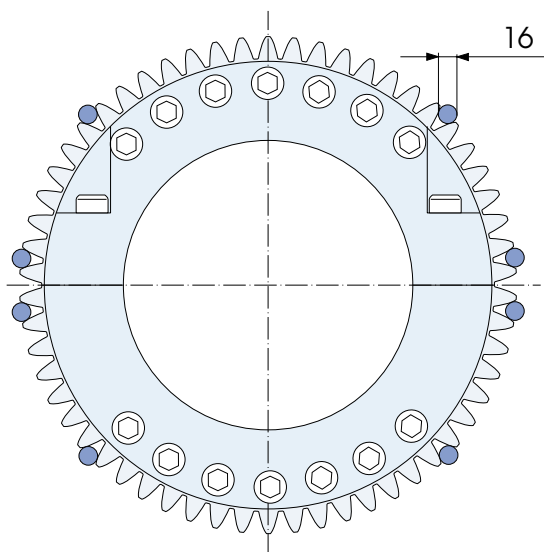

Fig 13-4
- 4** Unscrew the fastening screws (25) and remove the gear wheel halves.
- 3** Apply Loctite 262 on the threads of the screws (2) and (25).
- 4** Mount the gear wheel halves on the crankshaft with the parting face at right angles with the crank of cylinder No.1 and fasten the screws (2) and (25) by hand.
- 5** Tighten the axial screws (2) to a torque of 10 Nm and check that contact is established between the gear wheel and the crankshaft flange.
- 6** Tighten the fastening screws (25) to a torque of 40 Nm. The screws closer to the crankshaft flange are to be tightened at first.
- 7** Tighten the fastening screws (25) to stated torque. The tightening order is the same as in the previous point.
- 8** Tighten the axial screws (2) to the stated torque.
- 9** Check the gear wheel roundness. Place a cylindrical pin ($\varnothing 16$ mm) in the tooth gap as shown in Fig 13-4. Turn the engine and use a dial indicator to get an indication for the diameters. The maximum permissible difference between the measured values is 0.05 mm.